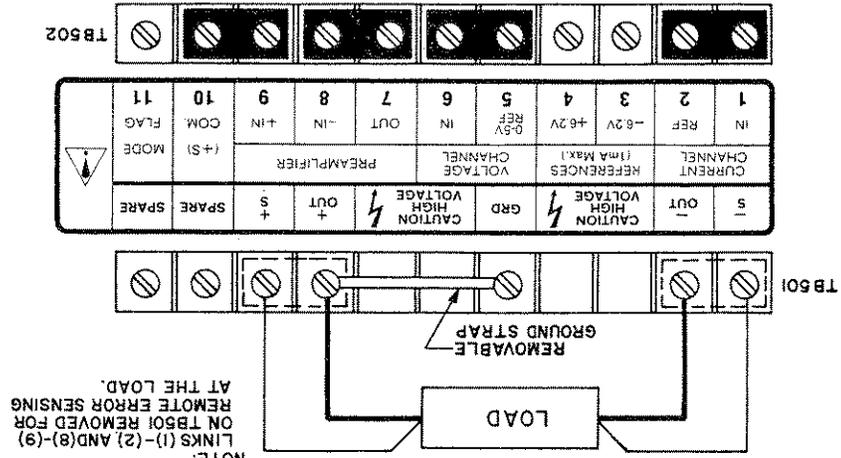

FIG. 3-2 REAR TERMINAL CONNECTIONS, APH POWER SUPPLY SET-UP FOR STANDARD VOLTAGE MODE OR CURRENT MODE OPERATION WITH LOCAL (FRONT PANEL) CONTROL OF THE OUTPUT.
2-7 A-C SAFETY GROUND. THE DANGEROUS VOLTAGES PRESENT IN THIS EQUIPMENT MAKE IT IMPERATIVE THAT THE CASE IS KEPT AT GROUND POTENTIAL AT ALL TIMES. If the 3-wire line cord with 3-prong safety plug (supplied with this equipment) is used in combination with a properly grounded outlet, this is taken care of automatically. If an adapter for a nongrounded outlet is used, however, the case must be grounded separately. A separate "GROUND" terminal is provided for this purpose on the rear of the APH. (See Section III, FIG. 3-2.)
NOTE: Grounding in FIG. 3-2, as well as in all other connection diagrams is indicated by means of the "ground" strap, "connected from the "(+) output" to "ground" terminal on TB501. Since the APH chassis is safety grounded by means of the 3-wire line cord, and the "ground" terminal is connected to the APH chassis, this connection serves as the "signal ground" in all diagrams. The ground strap may be removed, however, and the "signal ground" may be established elsewhere in the APH output/load circuit.
- b) EXTERNAL PROGRAMMING RESISTORS. External programming resistors should be high-quality units, with low-temperature coefficients. Resistors should be selected carefully, so that their specifications do not limit the performance of the APH Power Supply. Selection criteria for resistor DIAGRAMS. Application and test set-up diagrams in this section and in Section V of this manual represent the APH Power Supply by means of the barrier-strip terminal drawing shown in FIG. 3-2. FOLD-OUT DIAGRAM IS PROVIDED AT THE END OF THIS SECTION (SECTION III) REF: ATTN: THE BARRIER-STRIP TERMINALS TO THE ACTUAL CIRCUITRY OF THE APH POWER SUPPLY.